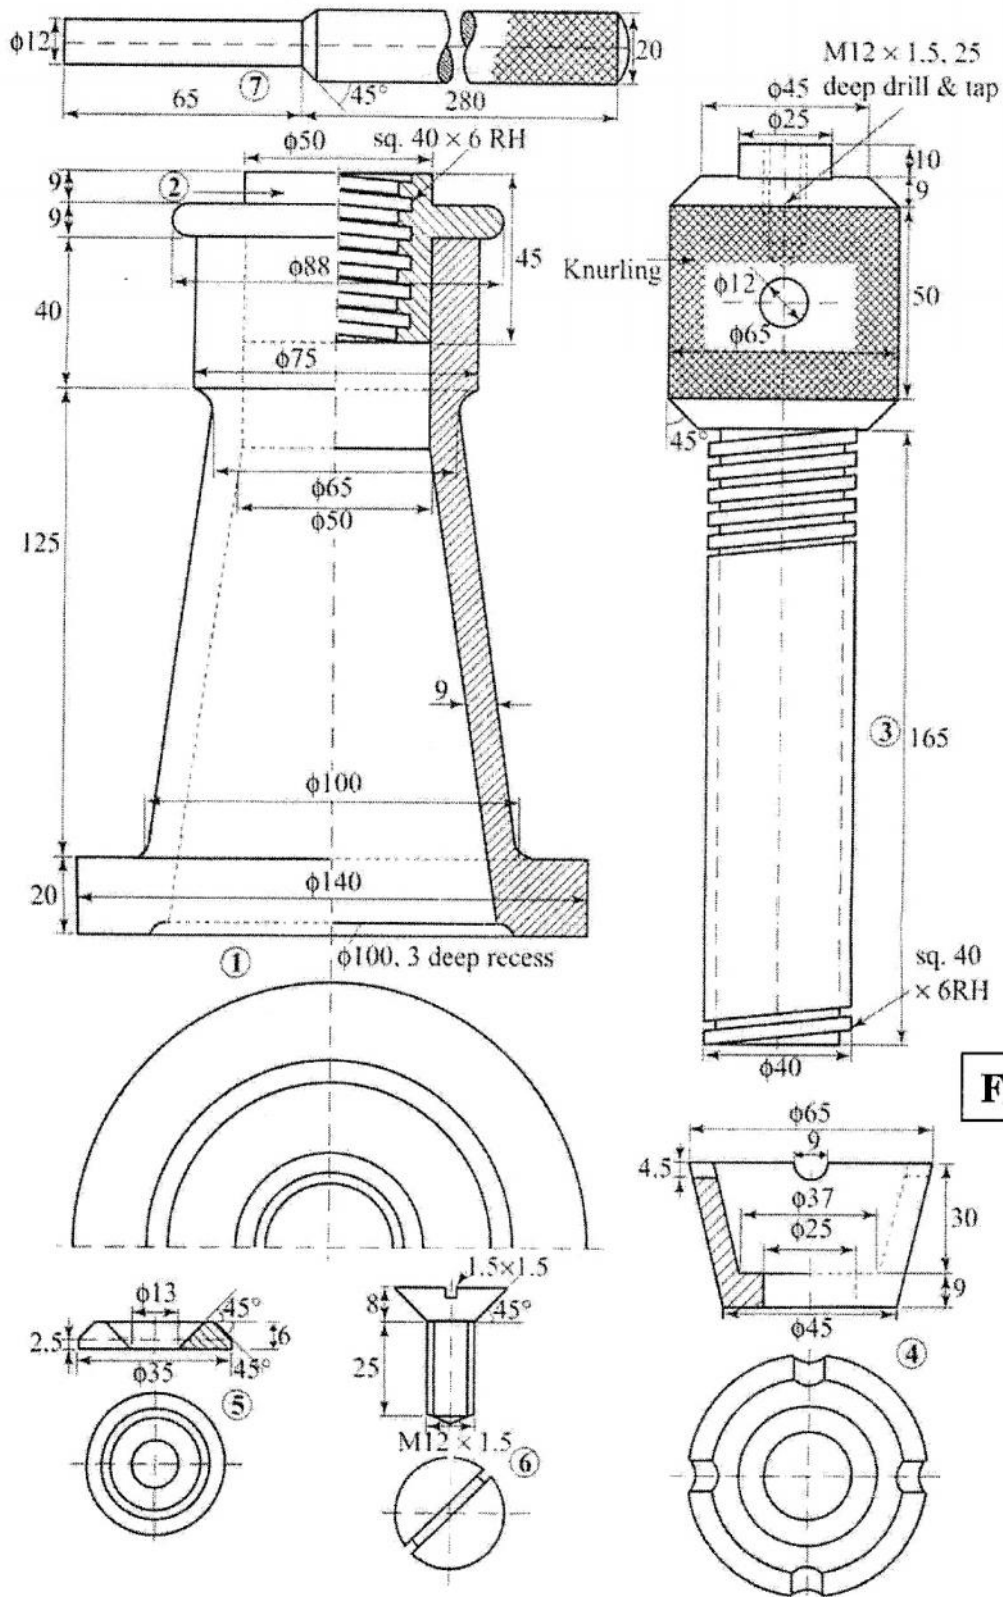

Figure 5
Q.8. Figure 5 shows the details of screw jack. Assemble the given components and draw the full sectional front view of assembly.